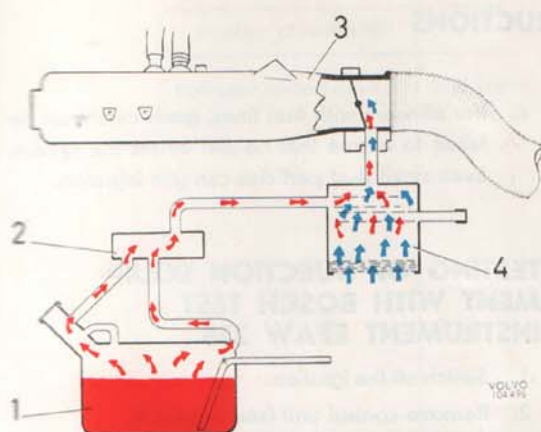

Fig. 2—34. Gas evaporite control system, principle
Gas fumes forming in the hermetically sealed tank, particularly during warm weather, are conveyed to the expansion container (2, Fig. 2—34) and from there to the venting filter (4) where they are mixed with the active carbon.